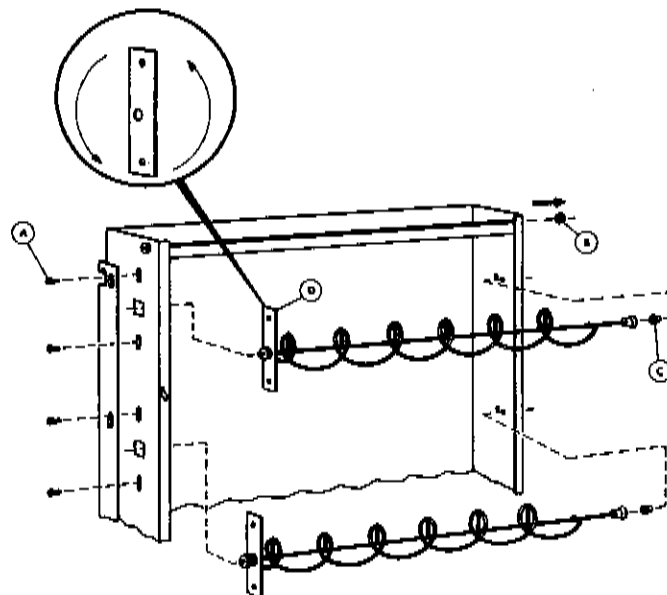

Figure 12 (Changing to a 9 ounce cup)
3. Remove the two screws (Figure 12) on each of the upper bearing plates for the spirals which are found on the left hand side of the magazine, as you face it.